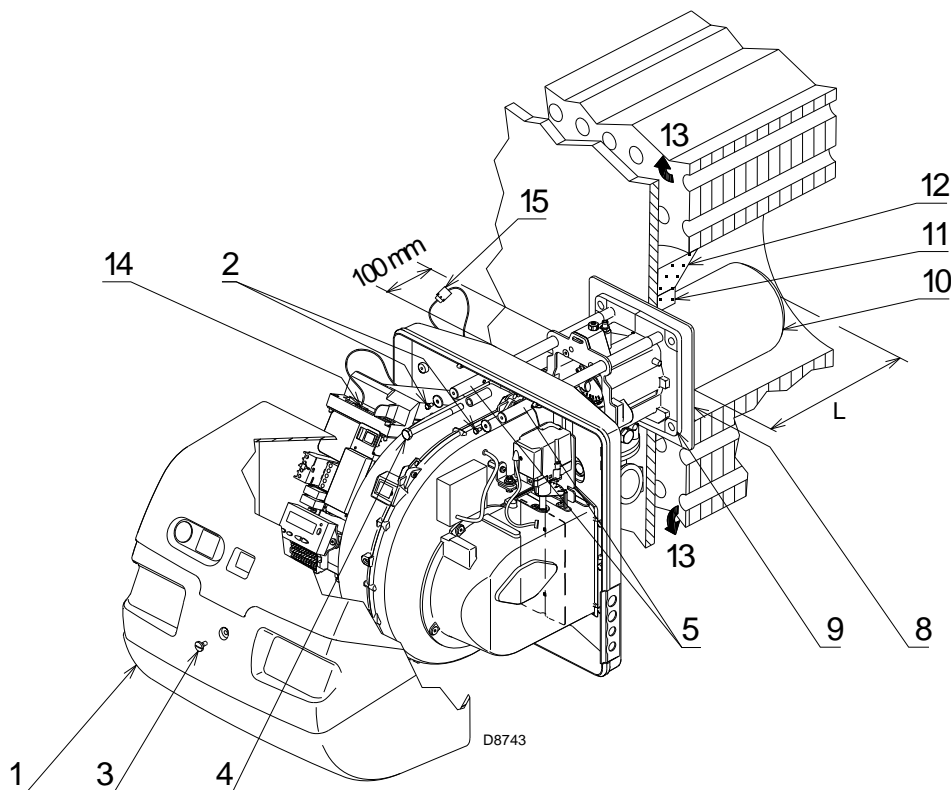

Fig. 16
For boilers with front flue passes 13)(Fig. 16), a protection in refractory material 11) must be inserted between the boiler refractory 12) and the blast tube 10).
For boilers with a water-cooled frontal, a refractory cover is not necessary 11)-12)(Fig. 16), unless expressly requested by the boiler manufacturer.
Separate the combustion head from the rest of the burner, as in Fig. 16; proceed as follows:
- reassemble the burner on the guides 3) at about 100 mm from the pipe coupling 4) - burner in the position shown in Fig. 16;
- connect the plug of the servomotor 14)(Fig. 16) and tighten the cable grommet 15);